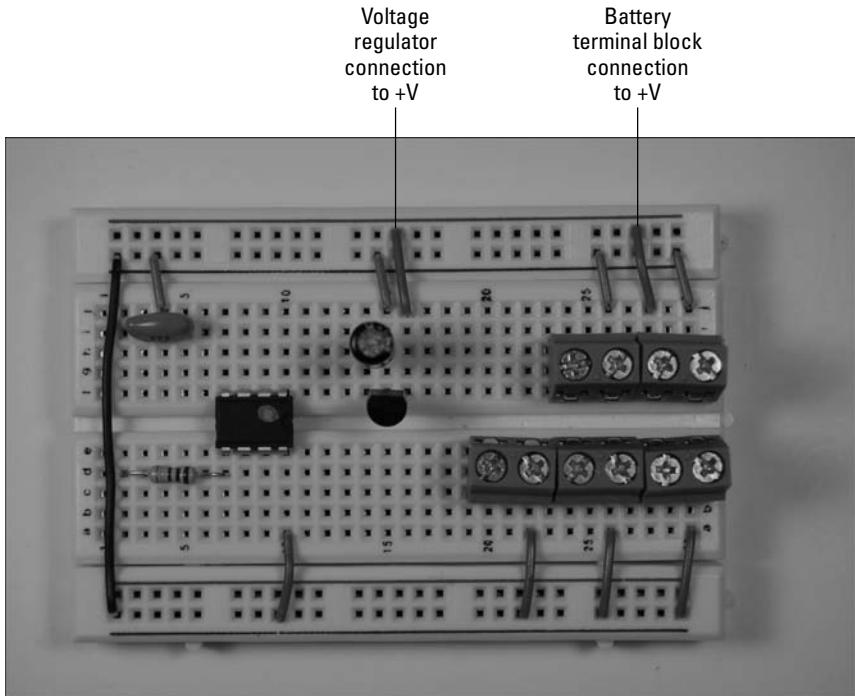

Figure 11-11:
4. Insert wires to connect the input pin of the voltage regulator and the terminal block for the battery to the + voltage bus, as shown in Figure 11-11.